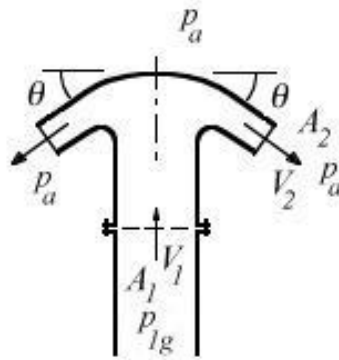

Figure P4.55
4.55 A spray head steadily discharges a fluid of constant density ρ symmetrically over two side branches, as shown in Figure P4.55. You can neglect gravity, and the fluid viscosity.